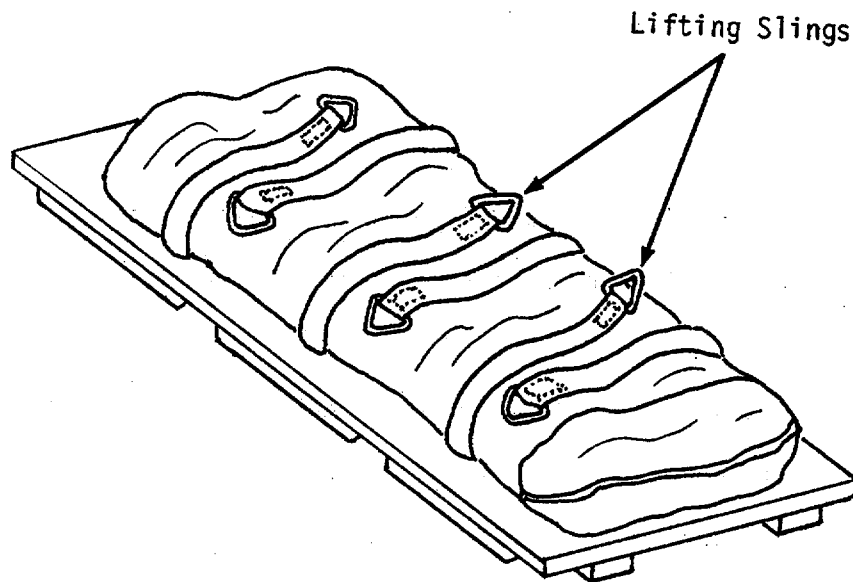

Figure 2-2. Tank on Skid
- e. Remove consolidation box from skid and place box outside site area. Only tank and slings remain on skid (Figure 2-2).